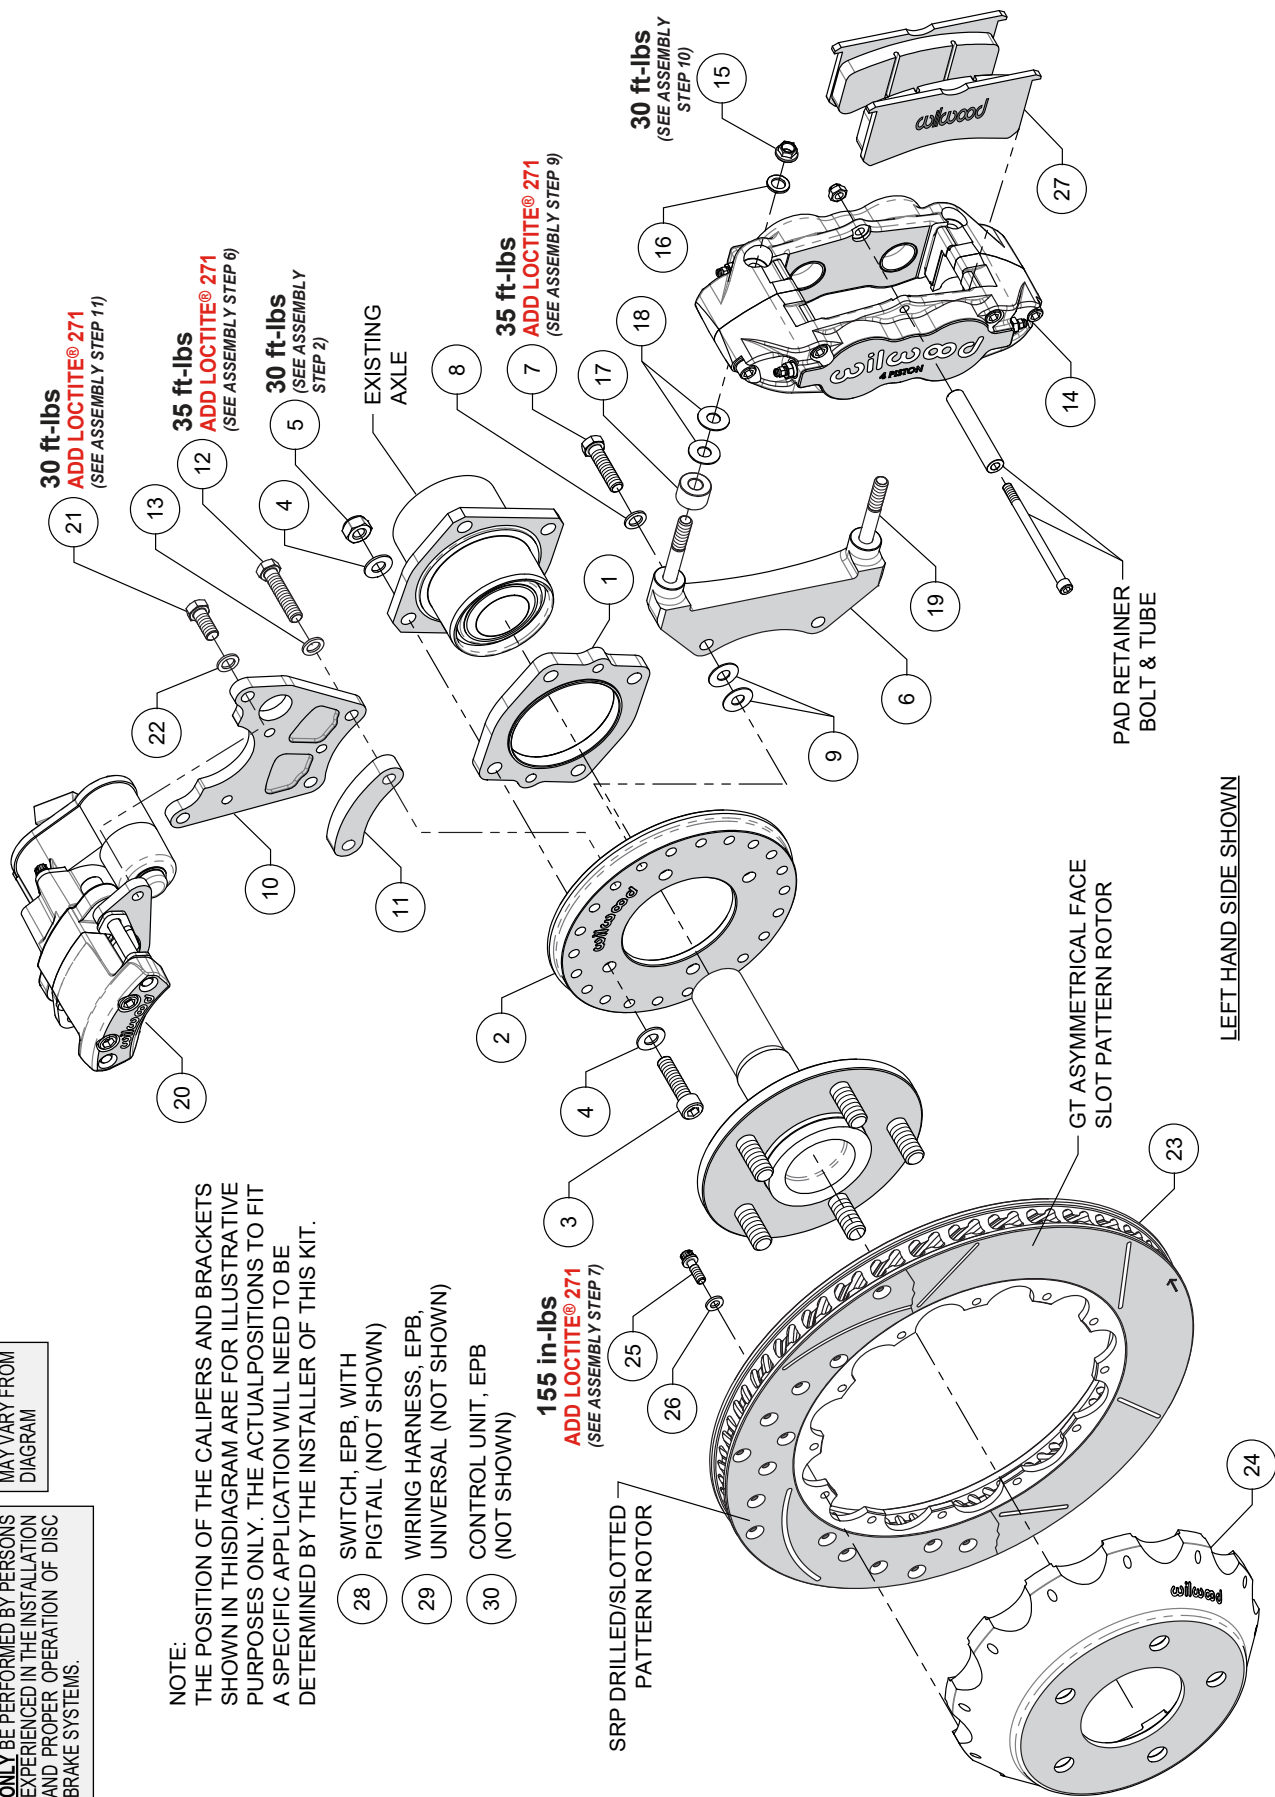

Figure 1. Typical Installation Configuration
NOTE: Numbers in parenthesis refer to the parts list and Figure 1 on the preceding pages.
STEP 1 Slide the backing plate spacer (1) onto the axle housing as shown in Figure 1 and Photo 1. **NOTE:** Ensure the spacer fits flush against the axle flange.
STEP 2 Orient the backing plate (2) as shown in Figure 1 and Photo 2 and mount it to the axle housing flange using bolts (3), washers (4), and lock nuts (5). Ensure the backing plate fits flush against the spacer (1). Torque lock nuts (5) to value shown in Figure 1. Reinstall the axle into the axle housing.
STEP 3 Start by determining the best location for the service caliper (14). This caliper is usually mounted in the 3:00 or 9:00 o'clock position, but may be rotated up or down approximately 45 degrees and still allow for proper bleeding, Photo 3. Orient the service caliper bracket (6) as shown in Figure 1 and Photo 4. Install bracket (6) to the backing plate (2) in the desired location using bolts (7), washers (8), and two .035" shims (9) placed between the bracket and backing plate, Figure 1. Temporarily tighten bolts. Next, mount the service caliper to the bracket (6) using lock nuts (15) and washers (16). Temporarily tighten bolts. Check that the caliper (including inlet fitting and hose) has sufficient clearance to all surrounding components through the full suspension travel. Relocate the caliper/bracket on the backing plate as needed to ensure proper clearance is achieved.
STEP 4 Determine the best location for the EPB caliper (20). **NOTE:** The EPB caliper motor extends farther inboard than the service caliper and therefore needs additional consideration when determining a mounting location with sufficient clearance. In the example application shown in Photo 5, the EPB caliper has sufficient inboard clearance to the leaf spring. However, if the EPB caliper were mounted closer to the 12:00 o'clock position, the inner body of the vehicle would hit the caliper during full compression of the suspension.
STEP 5 Orient the EPB caliper bracket (10) as shown in Figure 1. Install to the backing plate (2) in the desired location using bolts
(12), washers (13), and spacer (11), Figure 1 and Photos 6 and 7. Temporarily tighten bolts. **NOTE:** The EPB bracket is reversible. In one direction the bracket will position the EPB caliper closer to the service caliper, and vice versa if reversing the bracket. Next, mount the EPB caliper (20) to the bracket (10) using bolts (21) and washers (22). Temporarily tighten bolts. **NOTE:** EPB calipers are left and right handed, however they can be used on either side of the vehicle to best suit your specific application. Check that the EPB caliper (including wiring harness connector) has sufficient clearance to all surrounding components through the full suspension travel. Relocate the EPB caliper/bracket on the backing plate (2) as needed to ensure proper clearance is achieved.
STEP 6 Once the caliper positions have been determined, remove both the service (14) and EPB (20) calipers, leaving both brackets in place on the backing plate. Remove the EPB bracket bolts (12) one at a time, apply red *Loctite*® 271 to the threads, and torque to value shown in Figure 1.